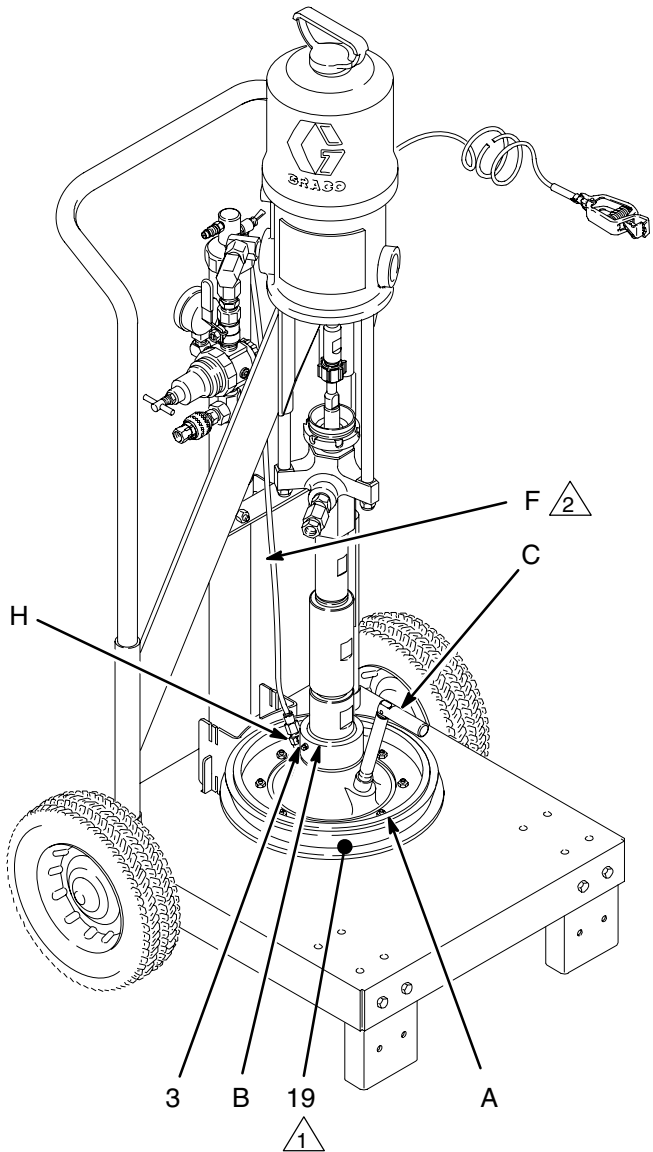

Fig. 5
Reference letters and numbers in the text refer to Figs. 5–8 and the Parts Drawings on pages 14–15.
2. Install the wiper plate (A) onto the pump intake (B), with the wiper plate vent handle (C) facing the front of the cart. Secure by tightening the setscrew (3). See Fig. 5.